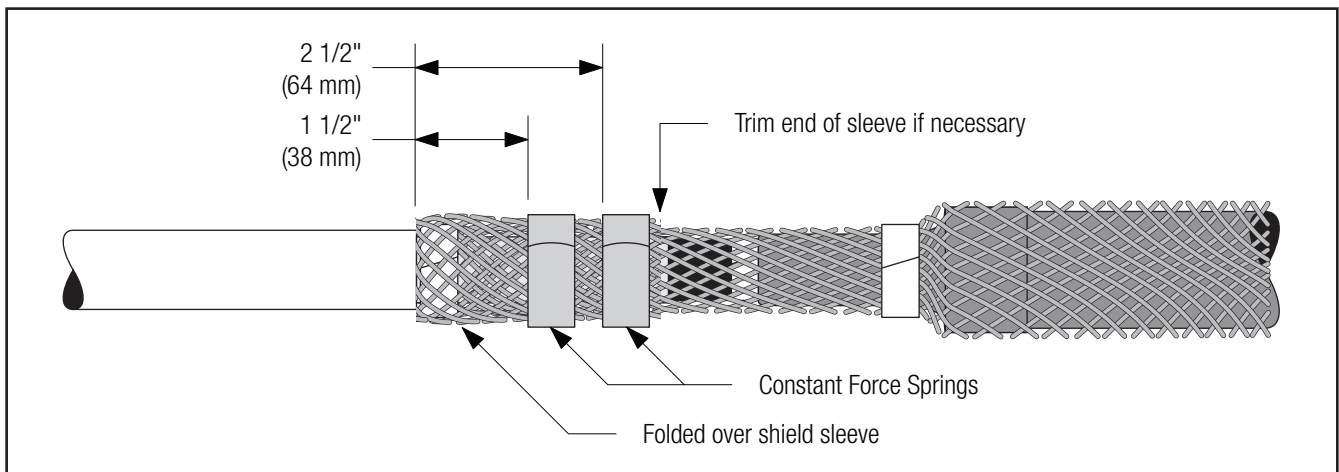

Figure 23
6.2.2 Bend ends of sleeve back over vinyl tape and secure with constant force springs at 1 1/2" (38 mm) and 2 1/2" (64 mm) from jacket end. Trim off excess sleeve 1/2" (13 mm) from springs, if necessary (*Figure 23*).